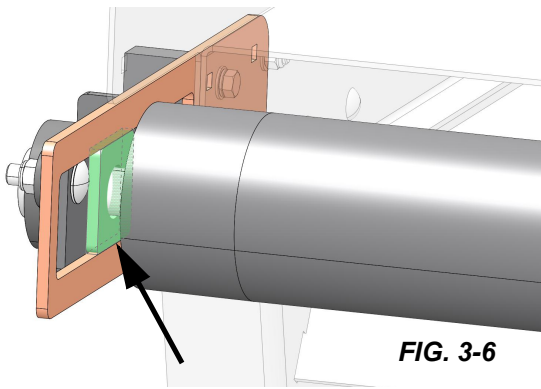

FIG. 3-6
13. Ensure the tensioner plate fits snugly into the idler plates as shown in FIG. 3-6.